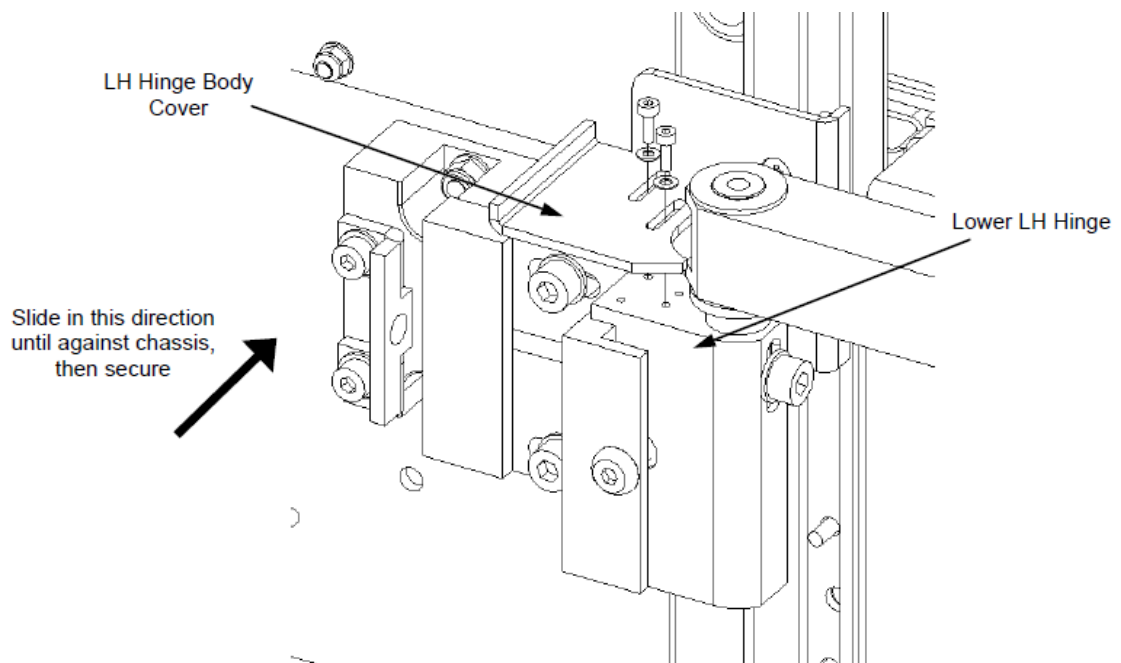

Figure D-3: Left Hand Hinge Body Cover
1. Remove the left hand Hinge Body Cover from the lower left hand hinge by unscrewing the two M2x6 screws (Figure D-3). When replacing the cover, secure the screws with Loctite 222.